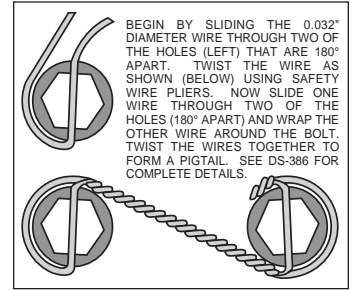

Figure 4. Safety Wire Diagram
- Orient the rotor (3) and the hat (2) as shown in Figure 1 and Photo 1. Attach rotor to hat using bolts (5) and washers (4). Using an alternating sequence, apply red *Loctite*® 271 to the threads, and torque to 140 **in-lbs**. For an added measure of security, the bolts may be safety wired using standard 0.032 inch diameter stainless steel safety wire as shown in Figure 4. Please refer to Wilwood's data sheet DS-386 (available at www.wilwood.com/Pdf/DataSheets/ds386.pdf) for complete safety wire installation instructions.